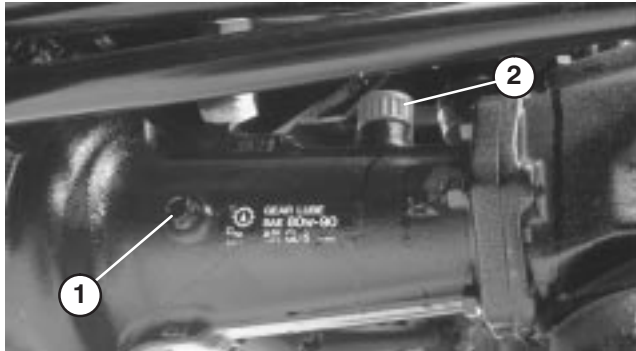

Figure 18
2. Remove check plugs from axle and make sure lubricant is up to bottom of each hole. If level is low, remove fill plugs and add enough lubricant to bring the level up to the bottom of the check plug holes (Fig. 18 & 19).